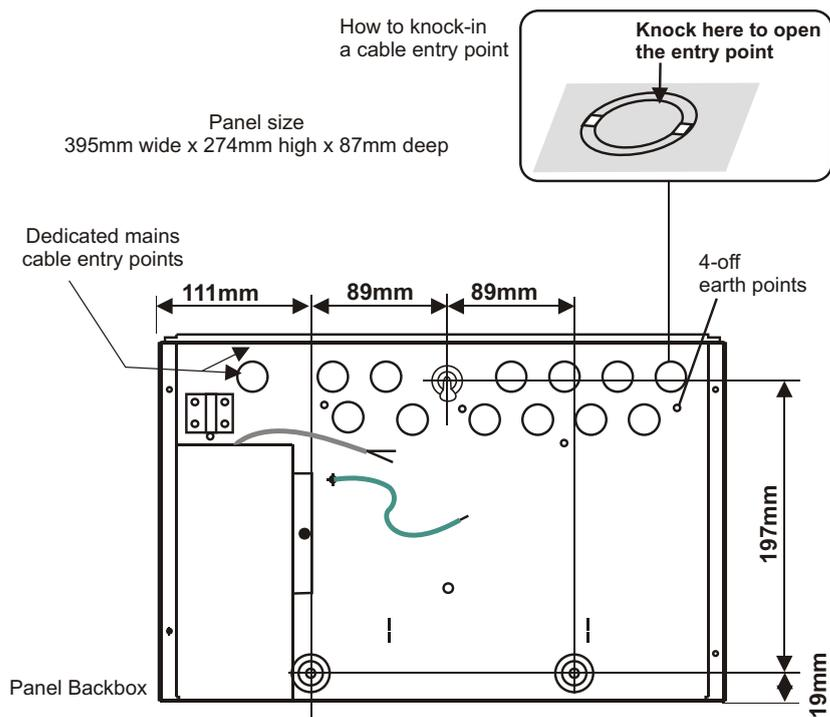

Figure 9 Panel fixings
- e) Hold the panel on the wall in the desired mounting position and mark the positions of the fixing holes. See *Figure 9* for case fixing details.